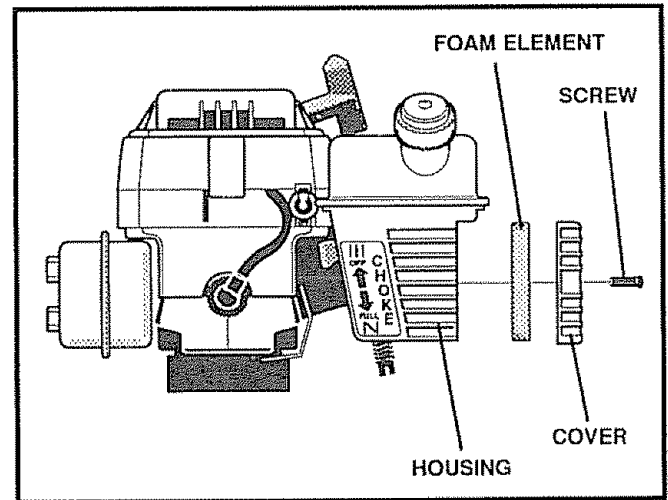

FIG. 10
- Loosen screws on air cleaner cover (see Fig. 10) and remove the cover.
- Reassemble the filter (see Fig. 10). Place the cover on the air cleaner housing and tighten screws to secure cover to the housing.